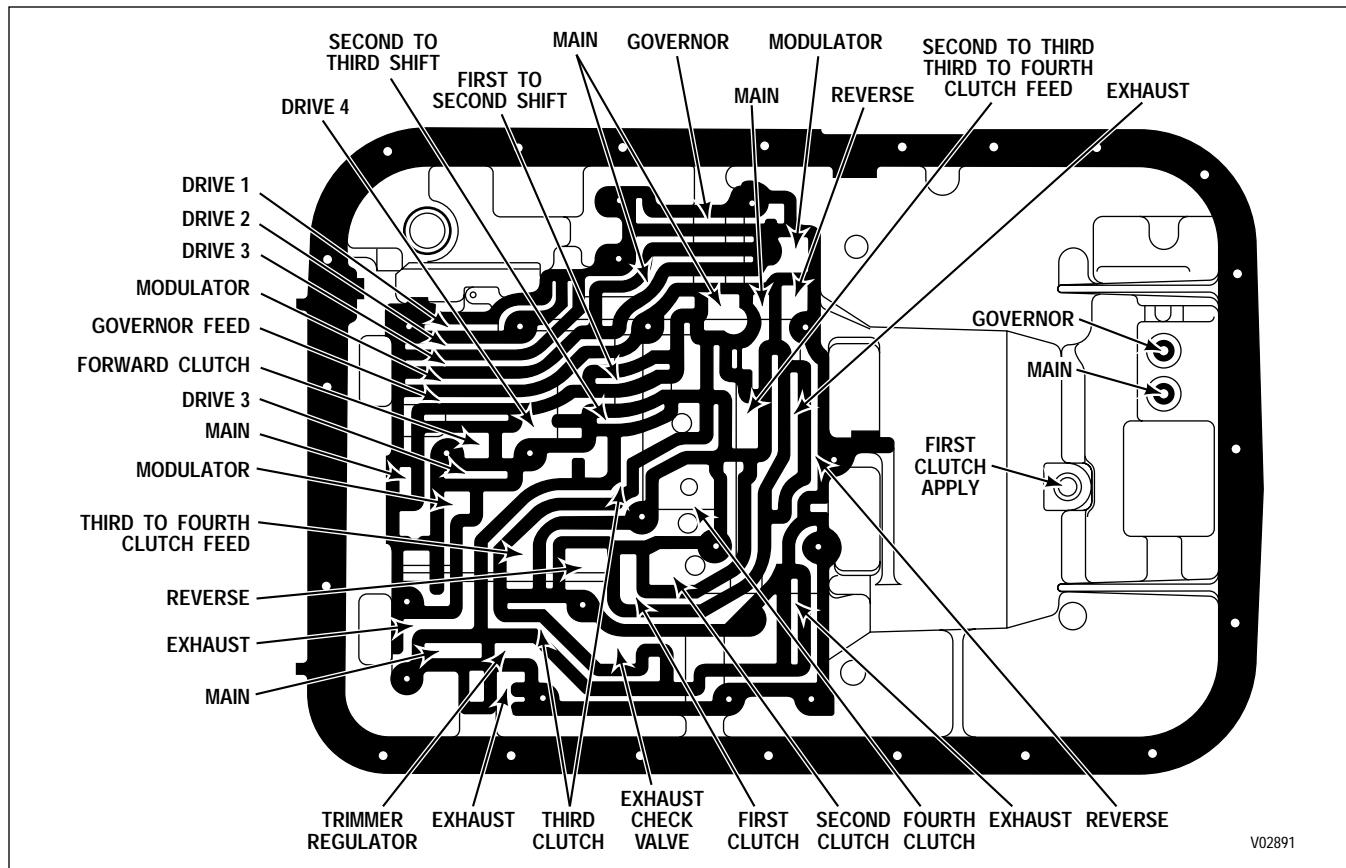

Figure 4-5. Transmission Housing — Main Control Valve Body Mounting Surface Tracks
(8) Inspect the hydraulic circuit tracks in the valve body(ies) and transmission housing main control valve body mounting surface for porosity, broken lands, cracks, dirt, and land surface imperfections. The tracks identified in Figure 4-5 will assist in locating troubled areas.